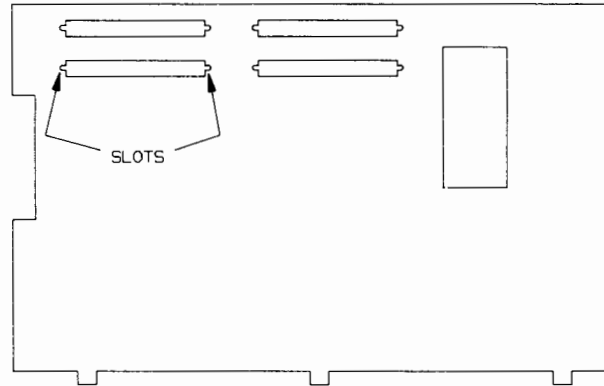

Figure 6-4. Pertec-compatible interface metal cover plate.
- 9c. (Pertec-compatible) Inspect the connectors. The two rows of connectors should line up with the slots at the ends of the connector holes (see Figure 6-4). Apply gentle pressure as necessary to line up the connectors into the slots.